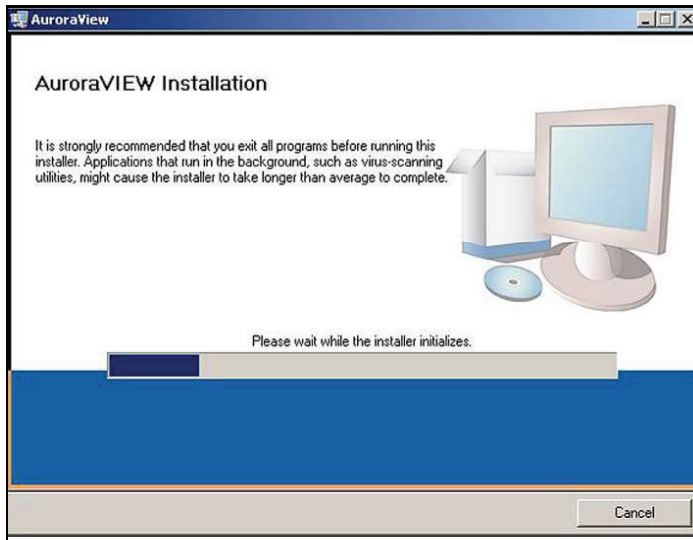

Figure 22: Installation recommendation
4. Exit all other programs before running the installer (see *Figure 22* below).